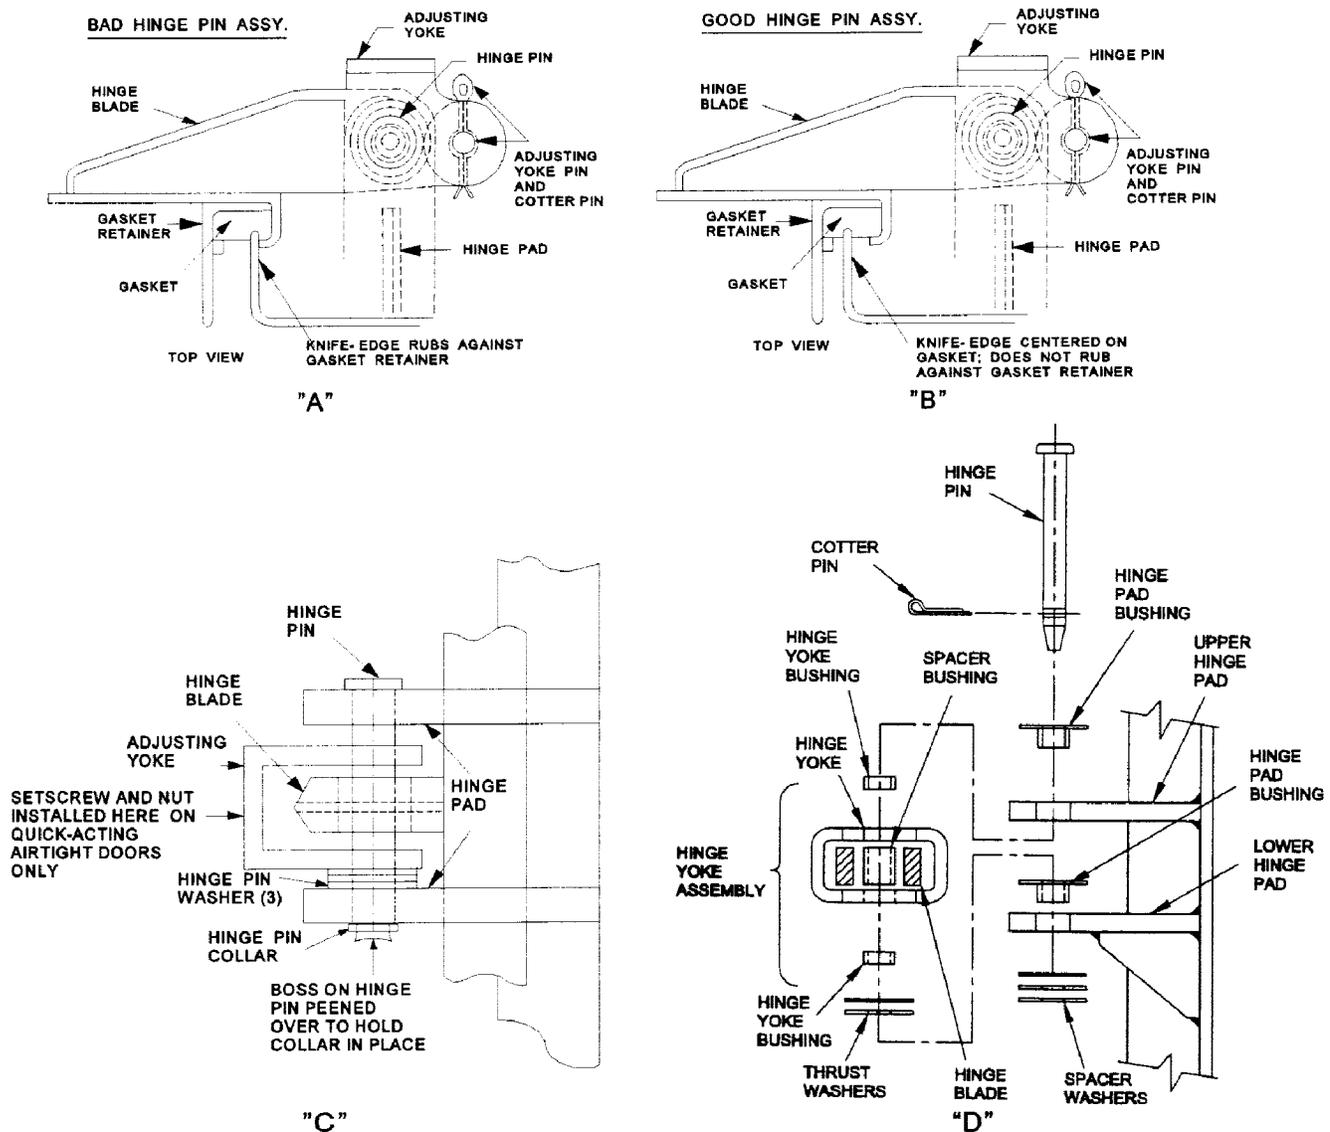

Figure 2-6. Hinge Pin Assemblies
wear with normal play in the hinge blades. Another indication of hinge pin wear is if the metal channel surrounding the gasket on the door side is rubbing against the knife-edge, or if the door panel rubs one or more side dogs when opening or closing. (See figure 2-6, "A.") A good hinge and alignment are illustrated in figure 2-6, "B." Replace the hinge pin washers and/or pins (on doors without MACHALT 167-31006 (ECP-518) or MACHALT 167-31011 (ECP-538) installed), or replace the hinge pad bushings, hinge yoke assembly, thrust washers, yoke pin spacer, and hinge pin (on doors with MACHALT 167-31006 (ECP-518) or MACHALT 167-31011 (ECP-538) installed), if any of the following conditions exist:
4. The hinge pin washers (on doors without MACHALT 167-31006 (ECP-518) or MACHALT 167-31011 (ECP-538) installed) are worn thin to approximately 1/32 inch. New washers are 1/16 inch in thickness. See figure 2-6, "C." The thrust washers or the flange on the hinge pad bushings (on doors without
MACHALT 167-31006 (ECP-518) or MACHALT 167-31011 (ECP-538) installed) are worn thin to approximately 1/32 inch. New thrust washers and the flange on new hinge pad bushings are 1/16 inch in thickness. See figure 2-6, "D."